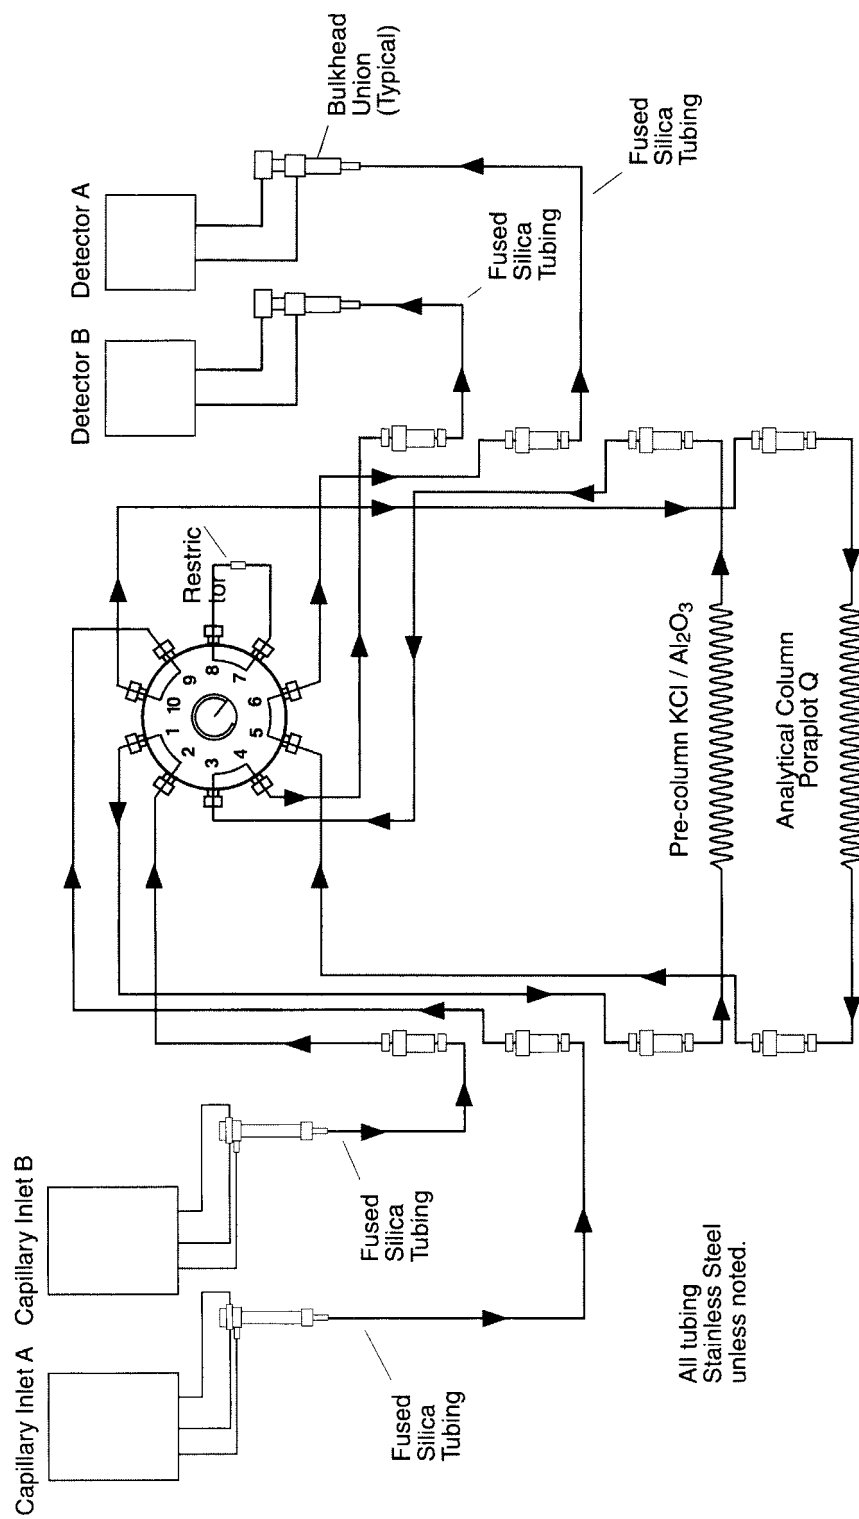

Figure 1
1. Adjust the 10-port valve to Position A (Fig. 1).